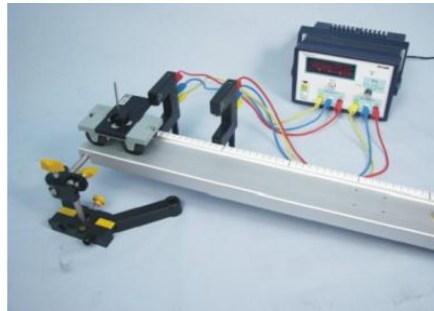

Figure 2.9: Adjusting the light barriers
- 4- Place the second light barrier at a distance of $s = 10\text{ cm}$ behind the first as shown in Figure 2.9.